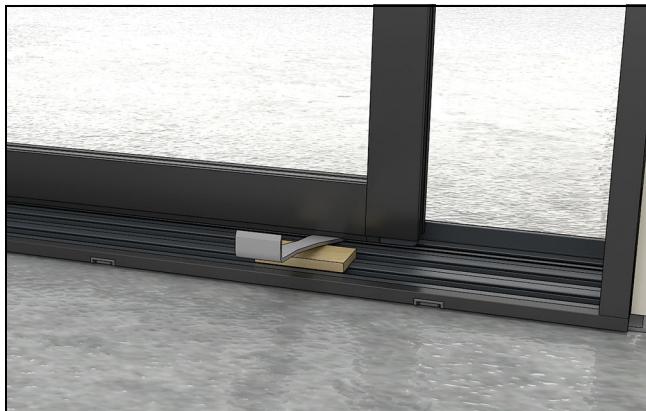

Figure 187
2. Place a block of wood on the sill and pry the panel up to relieve the weight off the rollers. See Figure 187.